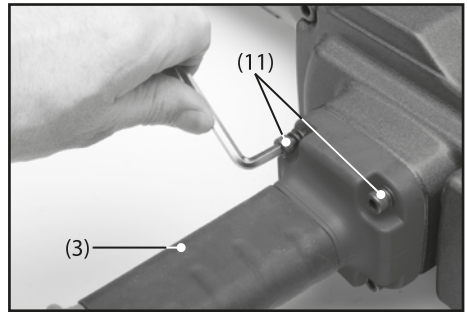

FIG.1
8.1 FIXING THE AUXILIARY T-HANDLE – FIG. 1